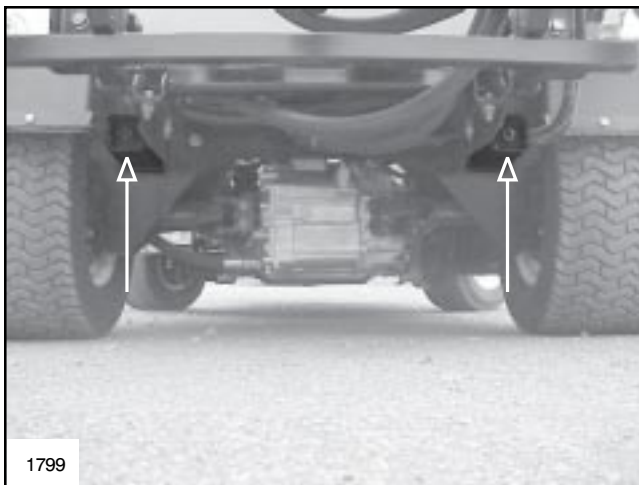

FIG. 2
4. The rear jacking points are on the rear-most frame support, between the angle welds. (Fig. 2)